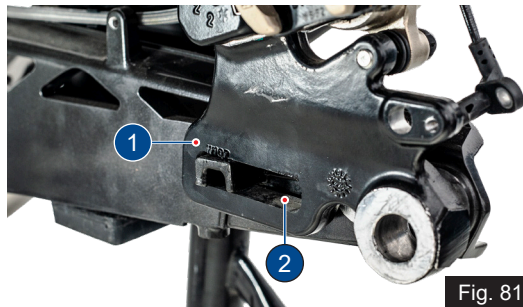

Fig. 81
- Place the brake-caliper (1) on the guide (2) of the swing arm as shown (ref. Fig. 81).